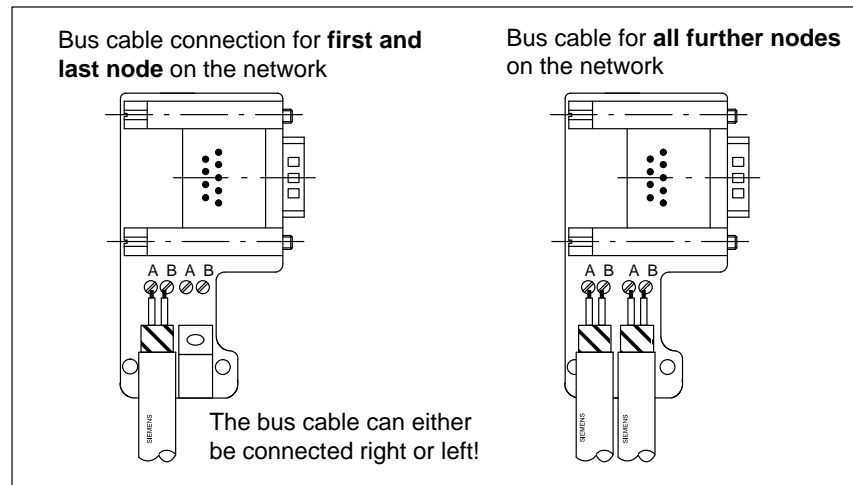

Figure 7-14 Connecting the Bus Cable to the Bus Connector 6ES7 972-0B.10-0XA0
5. Insert the green and the red wires into the screw-type terminal block as shown in Figure 7-14.